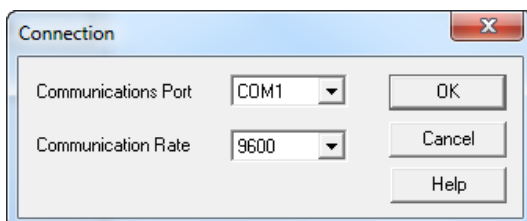

Figure 7-5
- DataView® will open and the **Connection** window will appear (see Figure 7-5).
- Click the **Configure Instrument** button and the **Connection** window will appear (see Figure 7-5).
**NOTE:** The instrument must be configured for the same communications rate specified in Figure 7-5. If it is not, then you must either select the corresponding rate or change the instruments rate.